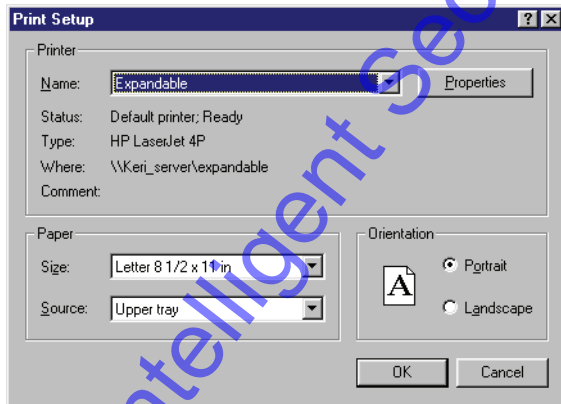

Figure 7-9: Print Setup Window
4. Click on the  button. The Print Setup window appears (see Figure 7-9).